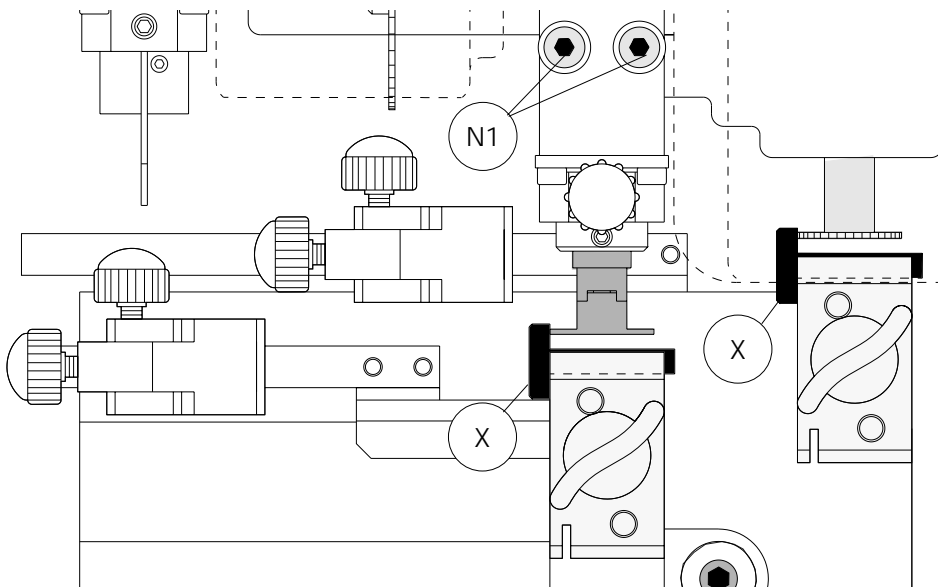

Fig. 9
Check that the setting tools (X) align correctly on the right hand side of the cutter and tracer (fig. 9). If it does not occur:
- loosen the two allen screws (N1) and move laterally the tracer until it is aligned with the setting tools (X).